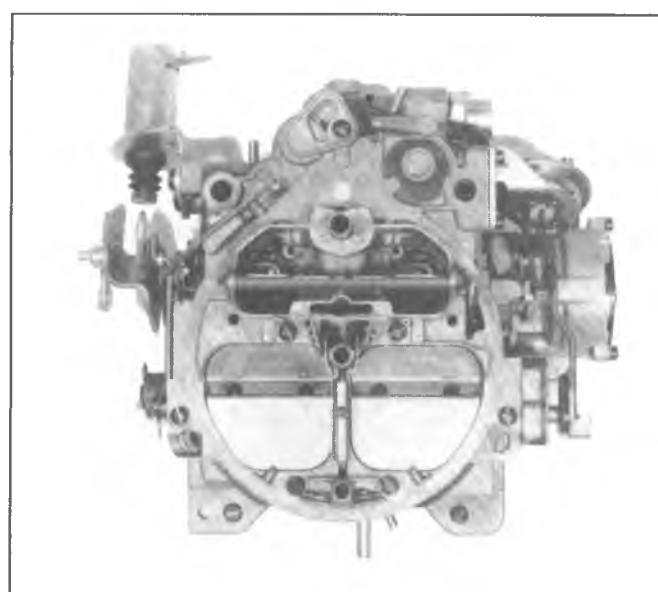

Fig. 6C-39--Removing Air Horn Screws
8. Remove aneroid cavity insert from float bowl. (Fig. 6C-46).